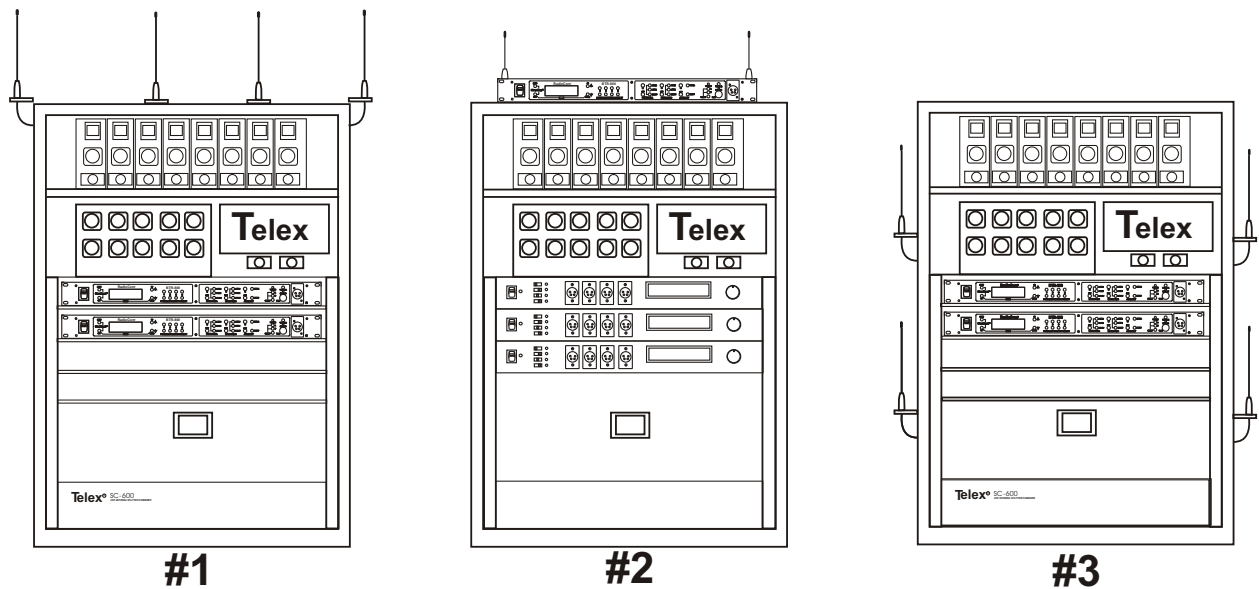

Figure 17
**DO NOT** - mount the base station 1/2-wave antennas on, or next to metal, such as beams, walls with metal studs, equipment racks, etc. This also applies to the antennas when assembled directly to the Base Station. This will “detune” the antennas which can result in noise or loss of RF signal at the Base Station, see Figure 17.